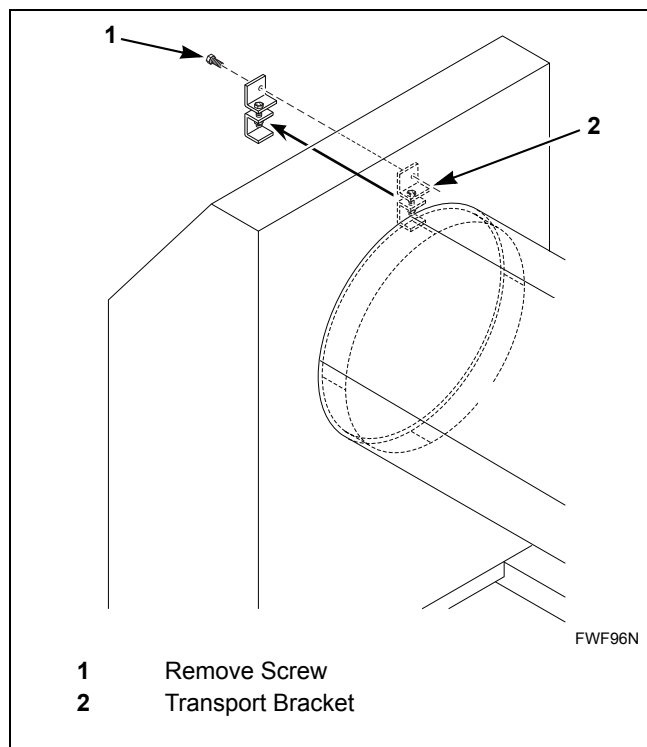

Figure 12
4. Remove top panel and remove transport bracket. Refer to *Figure 12*.